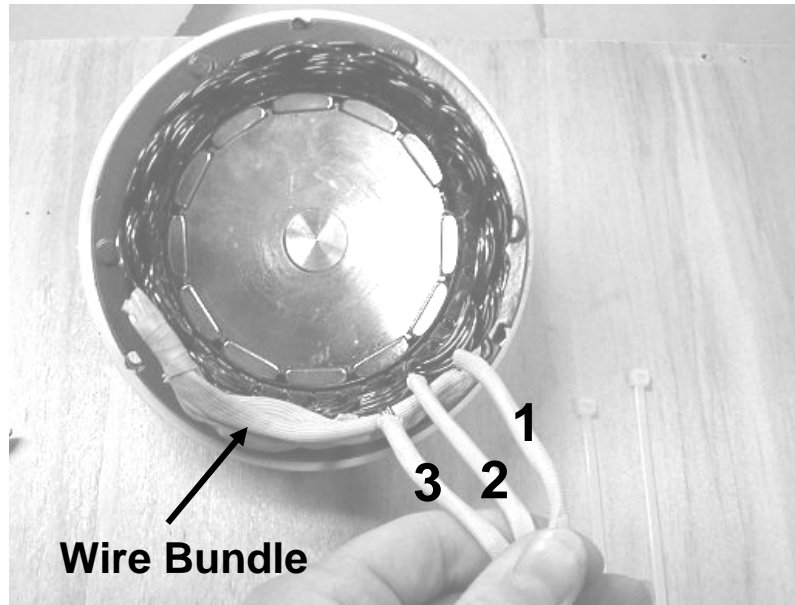

Fig. 9
- D) Untwine the leads from the wire bundle and lay out for labeling as shown in **Fig. 9** below. Label the wire leads **1, 2, and 3** near their ring terminal connectors.